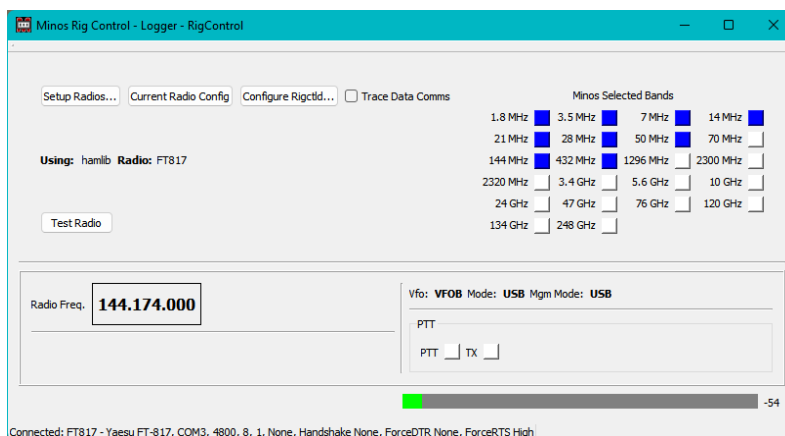

Figure 92 – RigControl operational
- “**Signal Meter**” enables the display of signal level in the RigControl panel (see Figure 92)
A status line at the bottom left of the panel (Figure 92) shows the Connected/Disconnect status⁸¹, and which radio has been selected, with what CAT configuration⁸².